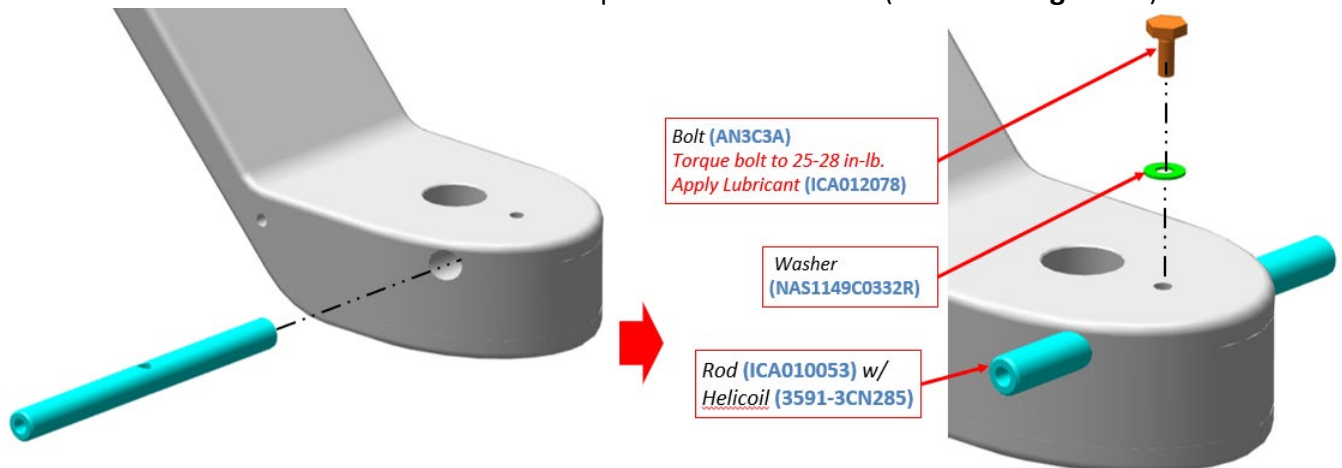

Figure 15. NLG Strut Hardware
- a. Remove the bolt, washer, and rod which engage the doors from the NLG strut. (**Figure 15**)
- h. Install rod into NLG strut: Using isopropyl alcohol, clean surfaces where lubricant will be applied. Apply lubricant (ICA012078) liberally to threads and shank of bolt. Install rod into NLG strut with bolt and washer. Torque bolt to 25-28 in-lb. (Reference **Figure 15**)